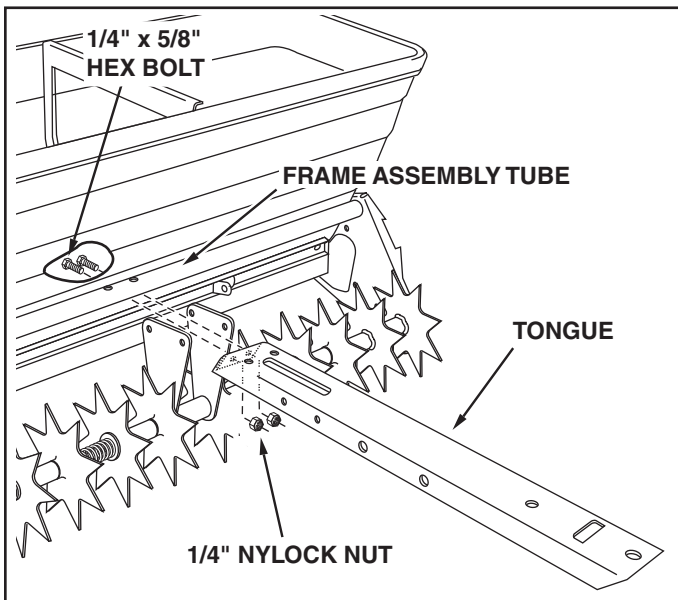

FIGURE 19
26. Assemble the end of the tongue to the hopper using two 1/4" x 5/8" hex bolts and 1/4" nylock nuts. The holes are located just below the frame assembly tube. **Do not tighten yet.** See figure 19.